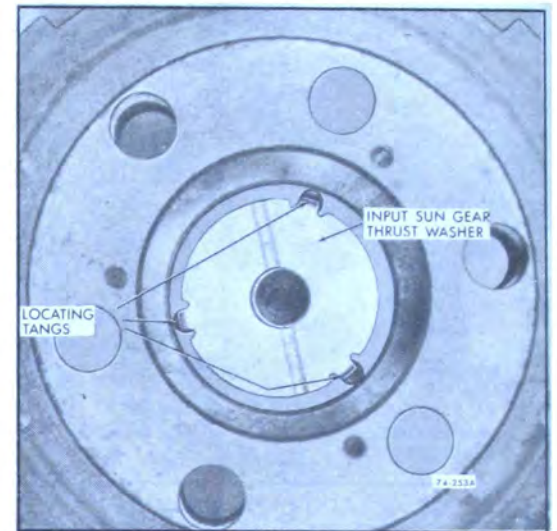

Figure 74-253
8. Remove input sun gear thrust washer. See Figure 74-253.